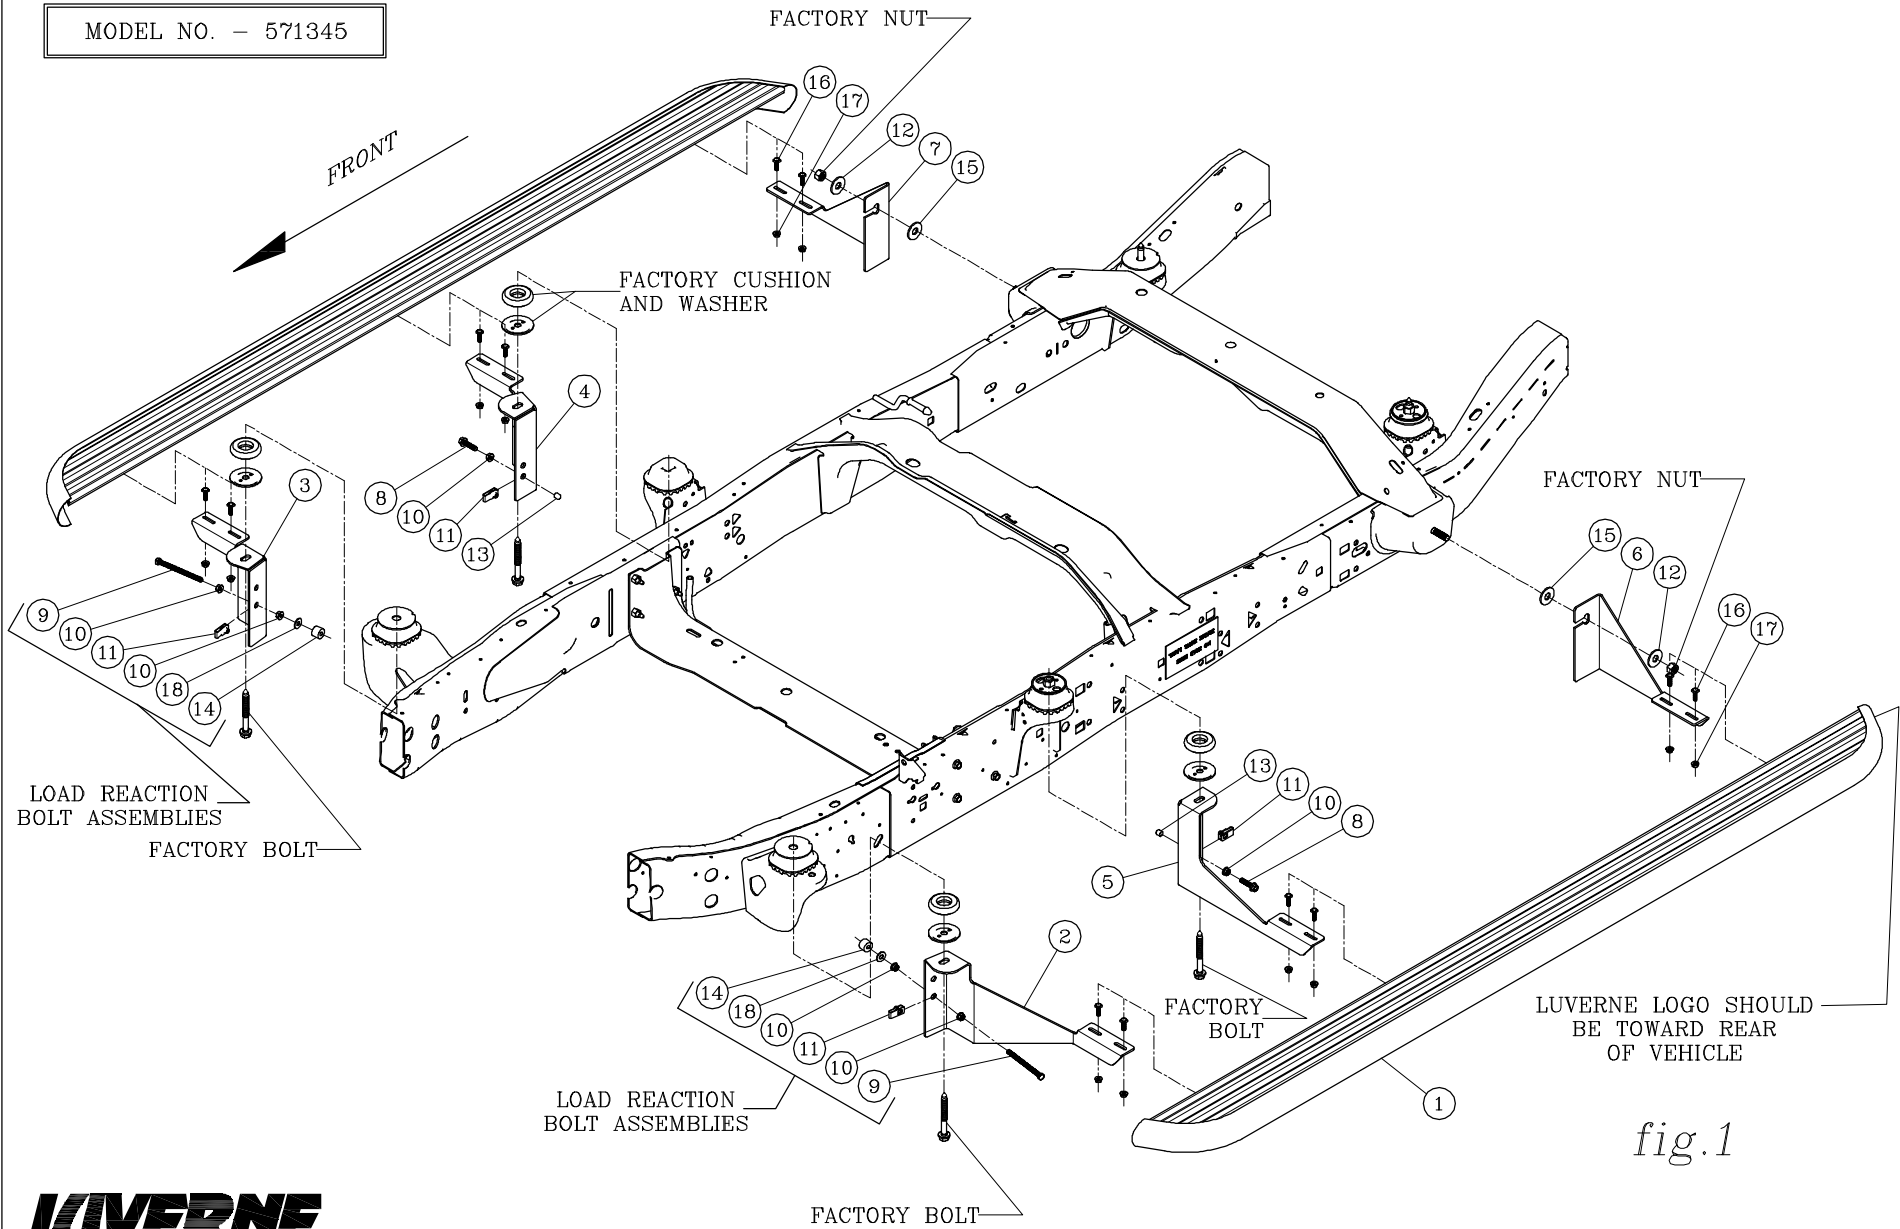

fig.1
3. BEFORE ATTACHING THE O-MEGA STEPS TO THE BRACKETS, PLACE THE STEP PADS (ITEM #2) ON TOP OF THE STEP PLATES. USE THE TABLE ON SHEET #2, AS A GUIDE TO POSITION THE STEP PAD FOR YOUR PARTICULAR VEHICLE. WHEN INSTALLING THE PADS ON THE STEPS, DRILL (5) 1/8" HOLE USING THE STEP PAD AS A GUIDE. ATTACH WITH (5) 8-18X1/2" TEK SCREWS (ITEM #6) PROVIDED. REPEAT FOR ALL STEP PADS. (NOTE: DUE TO THE SHORTNESS OF SOME BOXES, MOUNT THE BOX STEP PAD FIRST, APPROXIMATELY 1/2" FROM THE END CAP AND THEN MOUNT THE MIDDLE STEP PAD ACCORDINGLY.)
5. INSTALL THE END CAPS (ITEM #3) AS SHOWN IN *fig. 1*, TIGHTENING THE NUTS TO 5 LB FT.
4. INSTALL A 3/8"-16 SERRATED FLANGE NUT (ITEM #10) ON THE 3/8"-16 X 5" HEX BOLT (ITEM #9) WITH THE FLANGE FACING TOWARD THE END OF THE BOLT AND TURN ON JUST SHORT OF THE HEAD. SCREW THE BOLT INTO THE U-NUT AND WHEN IT COMES THROUGH THE OTHER SIDE START ANOTHER FLANGE NUT FACING THE AS THE FIRST NUT. TURN THE NUT ON UNTIL THERE IS 3/4" PROTRUDING FROM THE FACE OF THE NUT, INSTALL A 3/8" FLAT WASHER (ITEM #18) AND THE .354 X 1.00 X .748 RUBBER WASHER (ITEM #14) INTO THE END OF THE BOLT. ADJUST THE LOAD REACTION BOLT ASSEMBLY SO THAT THE RUBBER CUSHION IS SNUG AGAINST THE FRAME AND TIGHTEN DOWN THE OUTSIDE FLANGE NUT. (LOAD REACTION BOLT ASSEMBLY) AS SHOWN IN *fig. 1*.
8. INSTALL A 3/8"-16 SERRATED FLANGE NUT (ITEM #10) ON THE 3/8"-16 X 1-3/4" HEX BOLT (ITEM #8) WITH THE FLANGE FACING TOWARD THE END OF THE BOLT AND TURN ON JUST SHORT OF THE HEAD. SCREW THE BOLT INTO THE U-NUT AND WHEN IT COMES THROUGH THE OTHER SIDE ADJUST THE LOAD REACTION BOLT ASSEMBLY SO THAT THE RUBBER PLUG IS SNUG AGAINST THE FRAME AND TIGHTEN DOWN THE OUTSIDE FLANGE NUT. (LOAD REACTION BOLT ASSEMBLY) AS SHOWN IN *fig. 1*.